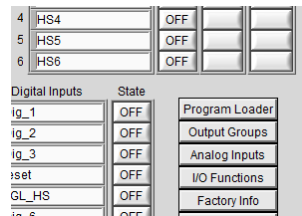

Figure 2
12. On the Main DVC10 screen, Figure 2, select the Factory Information switch.